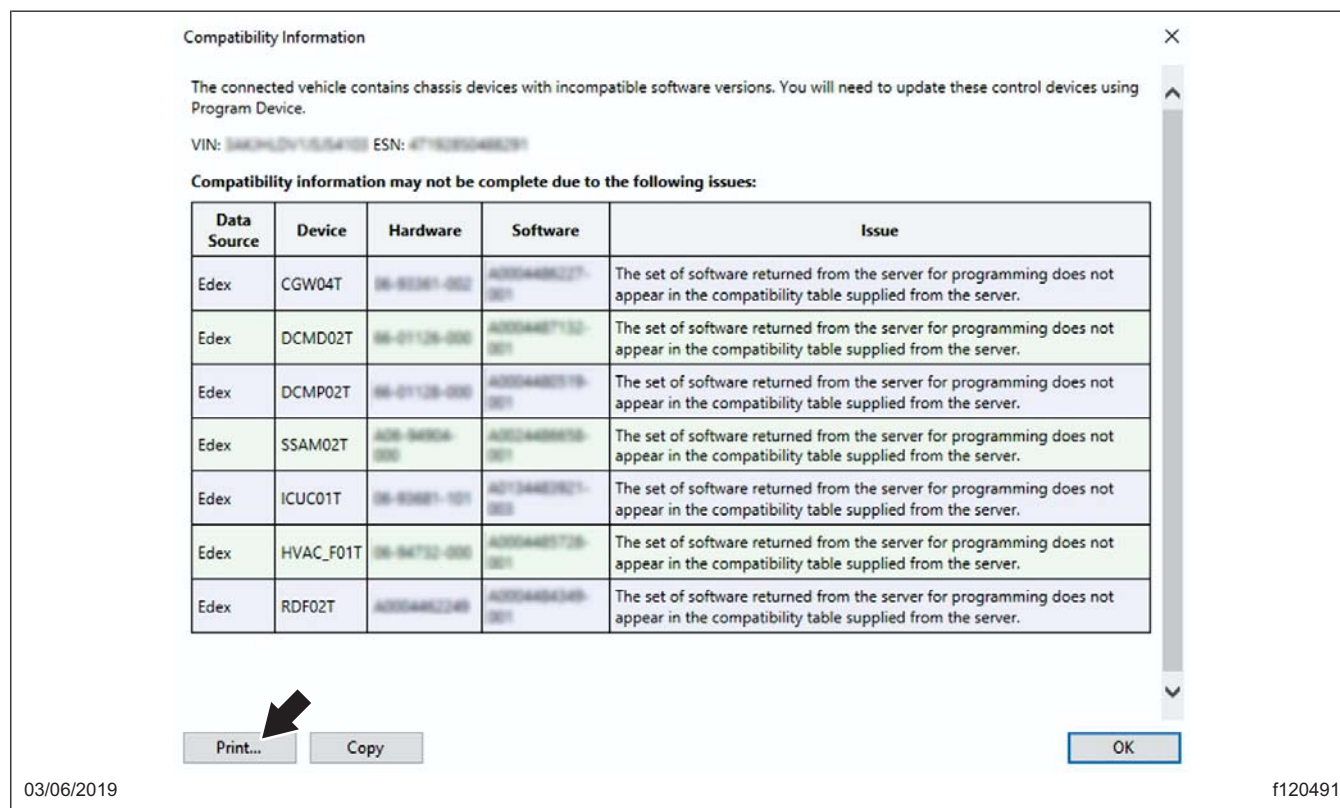

Fig. 12, Printing the List of Incompatible ECUs
16. Print or take a screen shot of the incompatible ECUs. See Fig. 12.